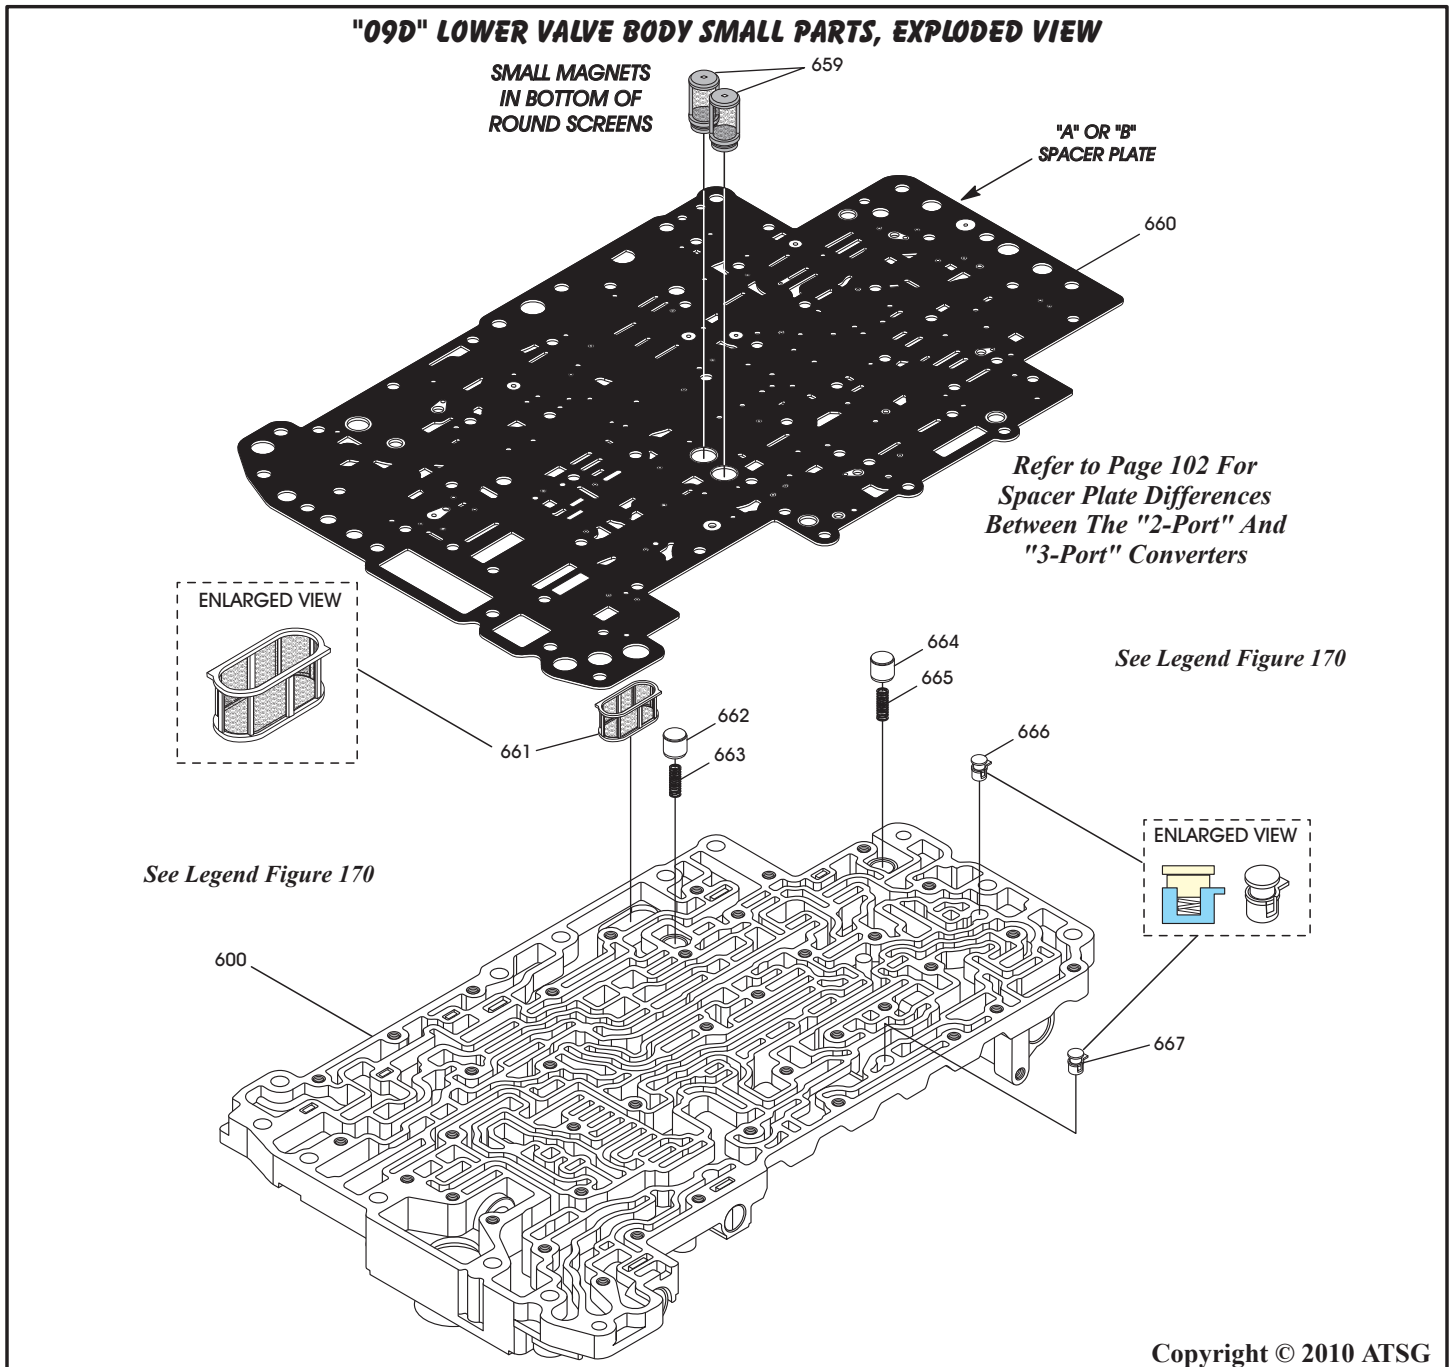

Figure 172
13. Assemble the worm track small parts into lower valve body **exactly**, as shown in Figure 172.